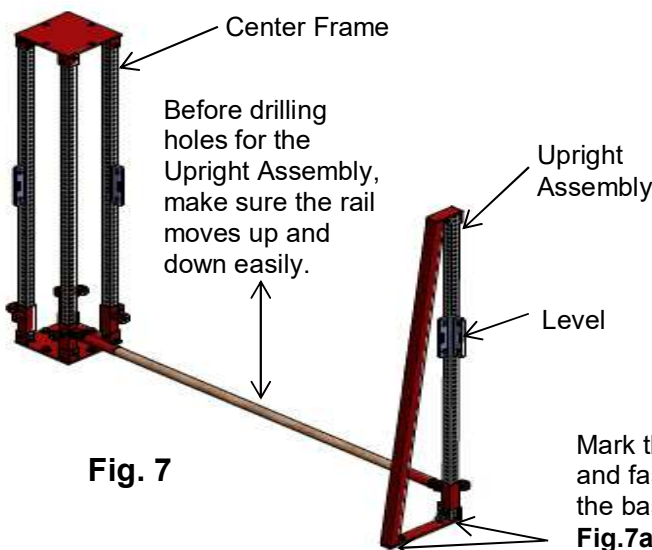

Fig. 7
2. Set the **Rail Carrier** to the lowest position on the **Adjusting Tubes**. Make sure the **Spin Snap Lock** engages into the hole on the **Adjusting Tubes** in the same hole positions, but do not tighten the **Snap Lock** at this point (see Fig. 7).
1. Make sure the **Upright Base Plate** is sitting flat on the concrete. Locate and mark the location of the **Upright Base Assembly** concrete anchors, using the **Upright Base Assembly** as a guide (see Fig. 7).
2. Drill and install **(2)** concrete anchors using the **Upright Assembly** as a guide (see **Fig. 7 & 7a**).
4. Check installed **Upright Assembly** to make sure it is sitting flat on the concrete floor. Once the bolts are properly tightened, make sure the **Upright Assembly** is level (see **Fig. 7**).